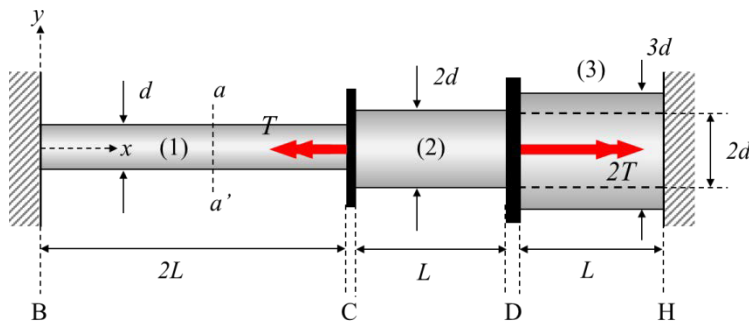

Fig. 2 (a)
A shaft is made up of three components: solid circular shafts (1) of length $2L$ and diameter d ; solid circular shaft (2) of length L and diameter $2d$; and *tubular* shaft (3) of length L , outer diameter $3d$ and inner diameter $2d$. All three components are made of the same material having a shear modulus of G . Shafts (1) and (2) are connected by a thin, rigid connector C, whereas shafts (2) and (3) are connected by a rigid connector D. Shaft (1) is rigidly attached to ground at B. Shaft (3) is rigidly attached to ground at H. Torques T and $2T$ are applied to C and D, respectively, as shown in the Fig. 2 (a).